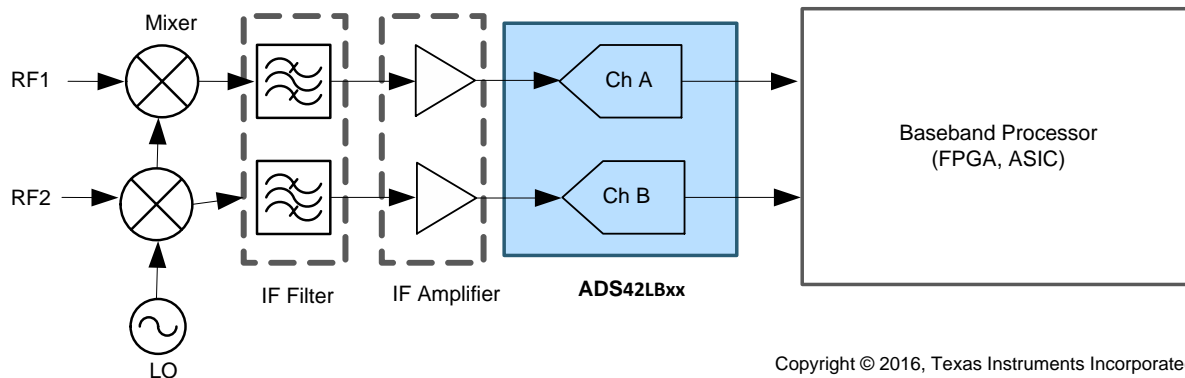

Figure 109. The ADS42LBx9 in a Dual-Channel Superheterodyne Receiver
Because the ADS42LBx9 is a dual-channel device, it can be used in a dual-channel superheterodyne receiver, as shown in Figure 109. In a superheterodyne receiver, the high-frequency RF signal is first mixed down to a lower Intermediate frequency (IF). The ADS42LBxx can be used in the IF stage to sample and digitize the IF signal. The digital data can be encoded either in offset binary or twos complement format and transmitted to a field-programmable gate array (FPGA) or application-specific integrated circuit (ASIC). Inside the FPGA or ASIC, the digital data are down-converted to the baseband frequency with a digital mixer and numerically controlled oscillator (NCO).